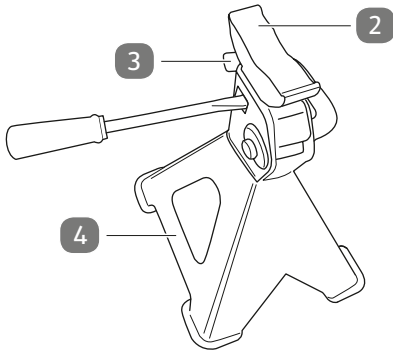
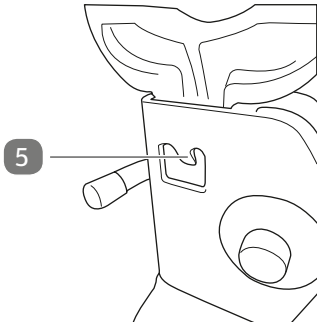

Figure 1
Figure 3
2. On the opposite side of the handle there is a tab **5** on the base. Using a large and sturdy flat-head screwdriver (not included), bend the tab in by placing the screwdriver under the tab and lifting up (see **Fig. 1** and **2**). Bend the tab in enough to keep the post from coming out of the base (see **Fig. 3** and **4**).